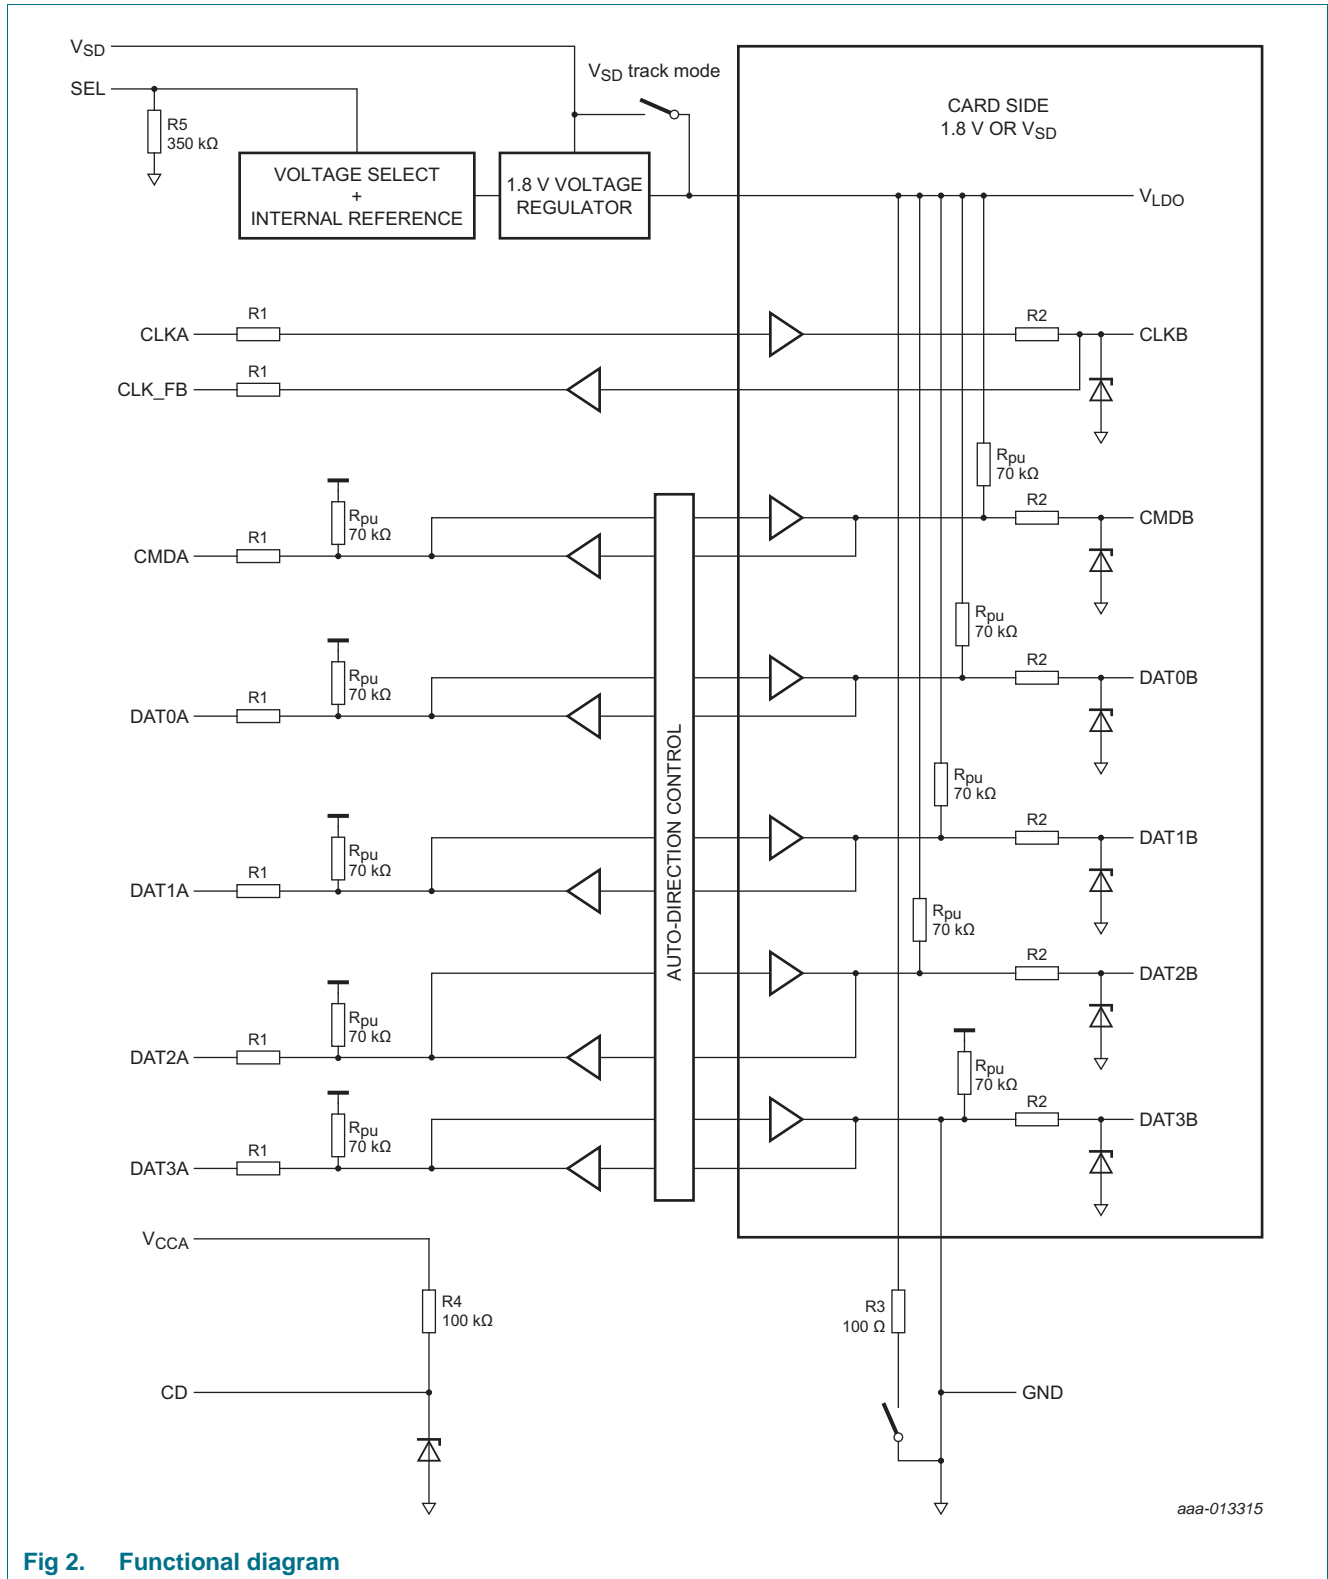

Fig 2. Functional diagram
1.  $CLKA$  is a pure high-ohmic input. Please refer to Figure 2 "Functional diagram" for more detail.